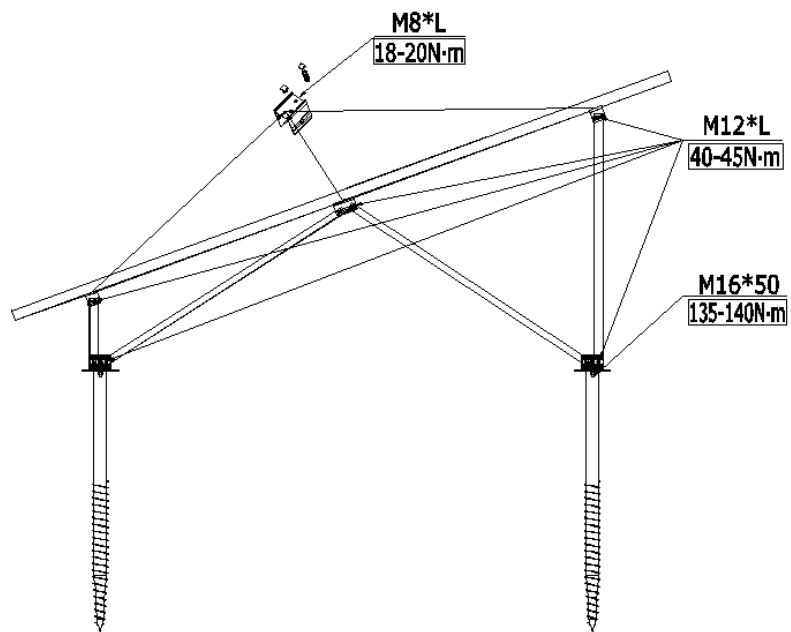

Figure16
4.2.4 Fasten all bolts shown in Figure16. Check all bolts whether reach recommended torque.